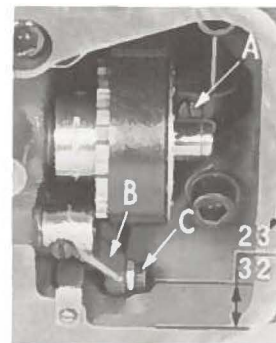

Fig. 31
Drain machine of oil and remove the bottom reservoir cover. Set the machine at zero stitches per inch. Loosen holding screw (A, Fig. 31) and move the stitch regulator plunger lever (B), so the center of screw (C) is $23/32$ inch above the bottom of the base. Retighten holding screw (A) and replace the bottom reservoir cover. Now adjustment can be made to the reverse feed control lever as described earlier.